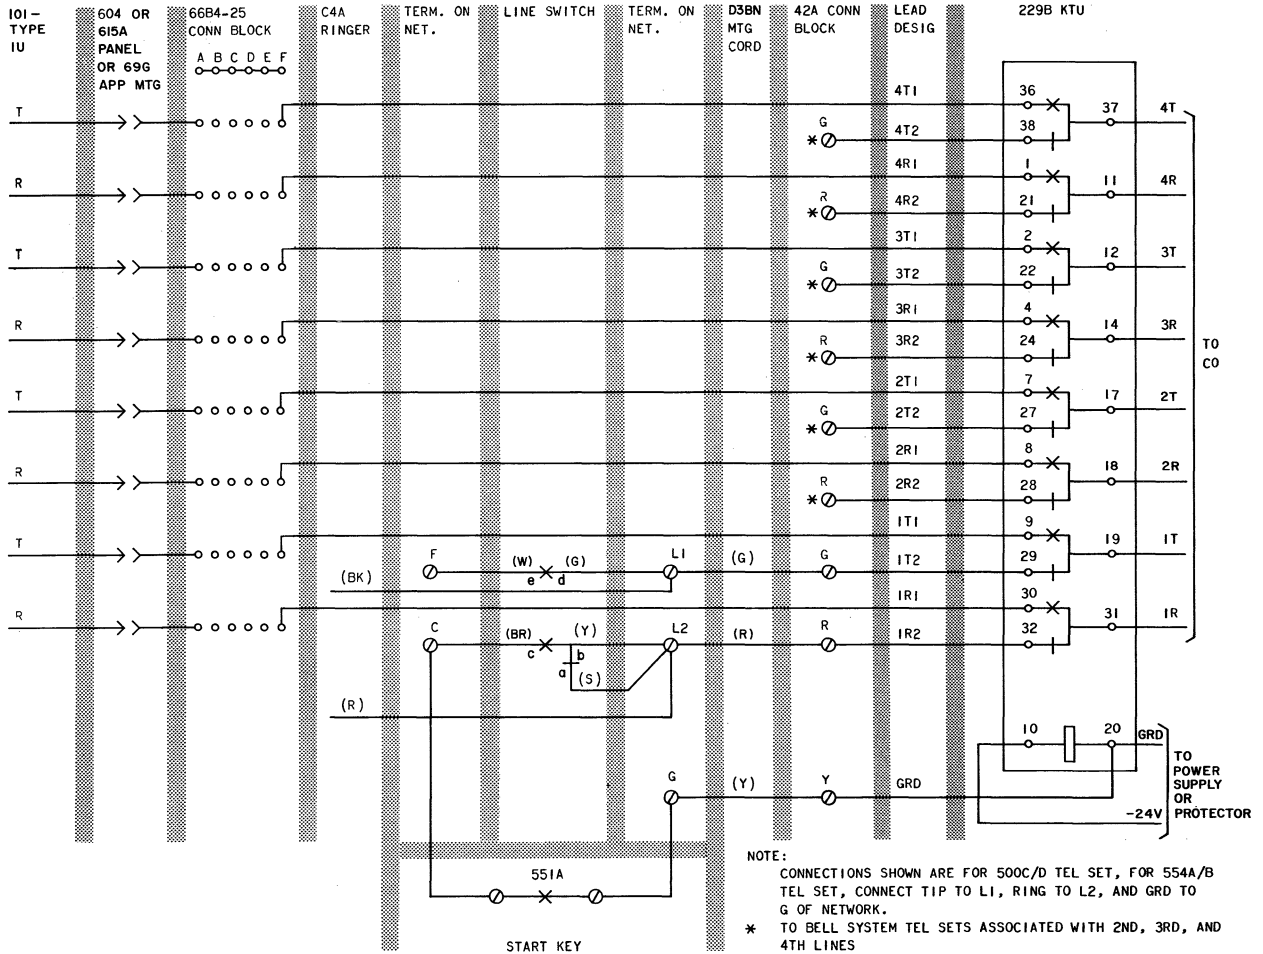

Fig. 17—Power Failure Transfer Circuit (Immediate Restoration)
3.20 When power failure transfer with immediate restoral is required, the 229B KTU must be mounted externally and wired to the 615A or 604-type panel and selected telephone set as shown in Fig. 17. No telephone set modification is required.
C. Power Failure Transfer (Immediate Restoral, Fig. 17)
6.06 For connection information using the power failure transfer circuit with immediate restoral, refer to Fig. 17 and make modifications and connections to telephone set as shown.